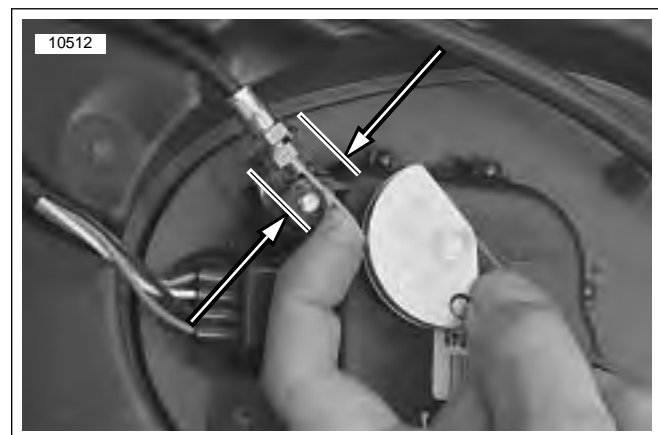

Figure 1-47. Checking For 1/8 in. (3.18) Maximum Free Play In Either Direction For Proper Adjustment
- See Figure 1-47. Adjust interactive exhaust cable as follows: